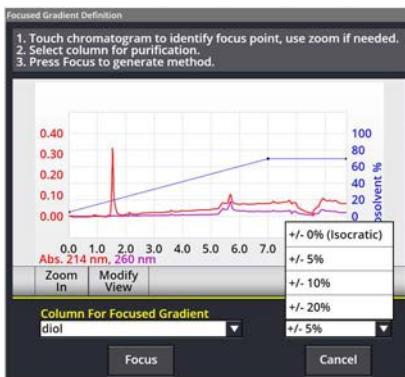

Figure 2-18 Focused Gradient Definition window
- a. Select the FOCUS GRADIENT button from the bottom right of the Run File window (Figure 2-17). The FOCUSED GRADIENT DEFINITION window appears (Figure 2-18).